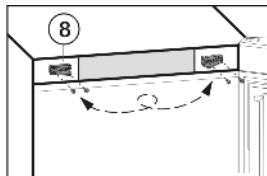

Fig. 7
- ▶ Unscrew the bearing element Fig. 7 (8), turn it 180° and transfer it to the opposite side. Possibly make preliminary holes with a bradawl or use a cordless screwdriver.